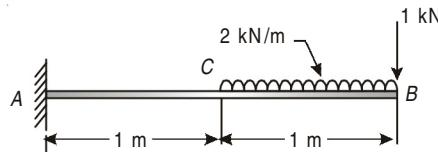

Fig. 4.37
- 4.11.** A cantilever 2 m long is loaded as shown in Fig. 4.37. Cross-section of the beam is rectangular 100 mm \times 200 mm deep. Take $E = 10.5$ GPa. Calculate the deflection at the free end.